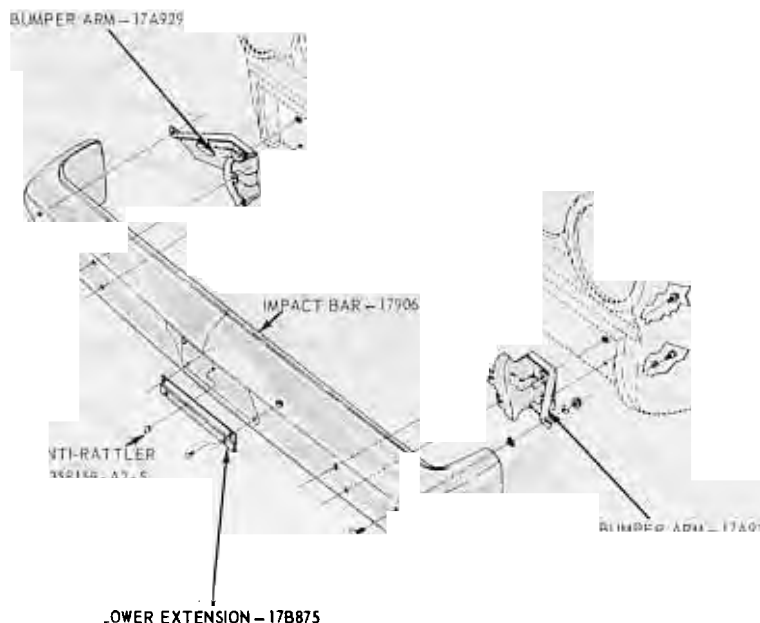

FIG. 10—Falcon Rear Bumper Installation
3. Remove the four bumper arm-to-frame retaining bolts (Fig. 10), and remove the bumper assembly.